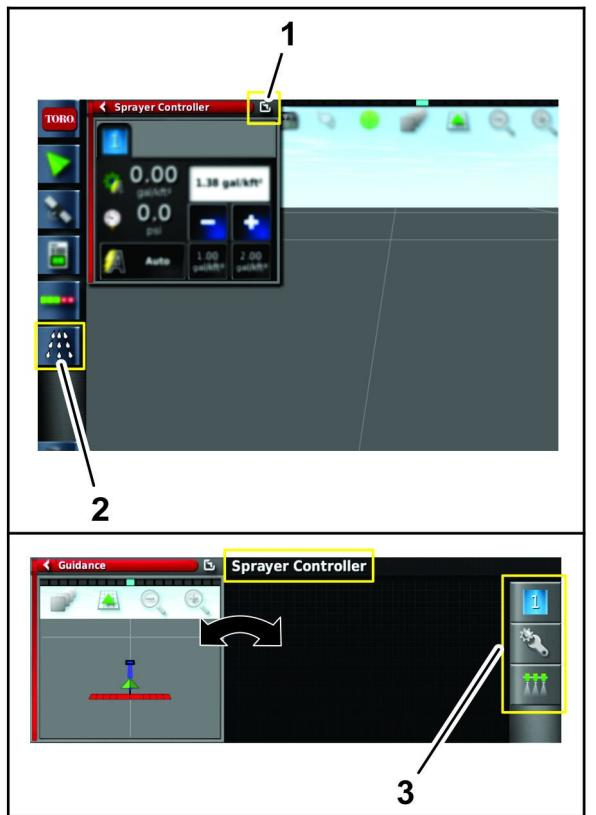

Figure 177
3. Press the sprayer-controller icon (Figure 177).
5. Press the configuration icon in the sprayer controller submenu to display to configuration menu (Figure 177).
9. Press the switch window icon to return sprayer controller menu. (Figure 177).